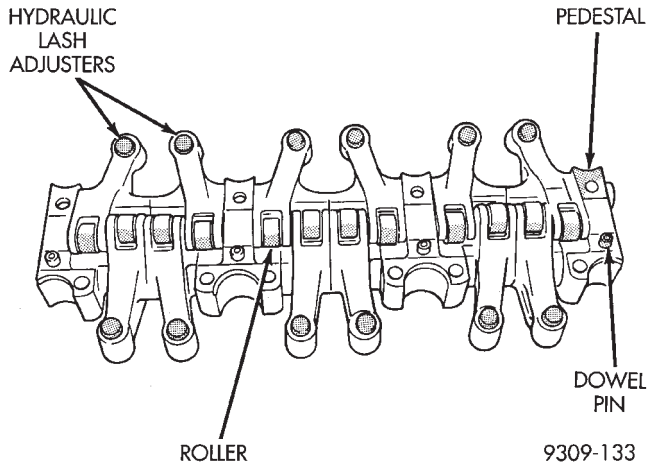

Fig. 54 Assemble Rocker Arms and Shaft
- (1) Install the rocker arms, and pedestals onto the shaft.
- (2) Install dowel pins (Fig. 54). Dowel pins pass through the pedestal into the exhaust rocker shafts. Dowel pins should be pressed in until they bottom-out against the rocker shaft in the pedestal.